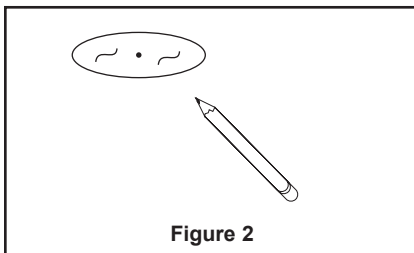

Figure 2
Step 1. Locate center of proposed opening on ceiling and use template to mark and accurately cut an opening. (Fig. 2).